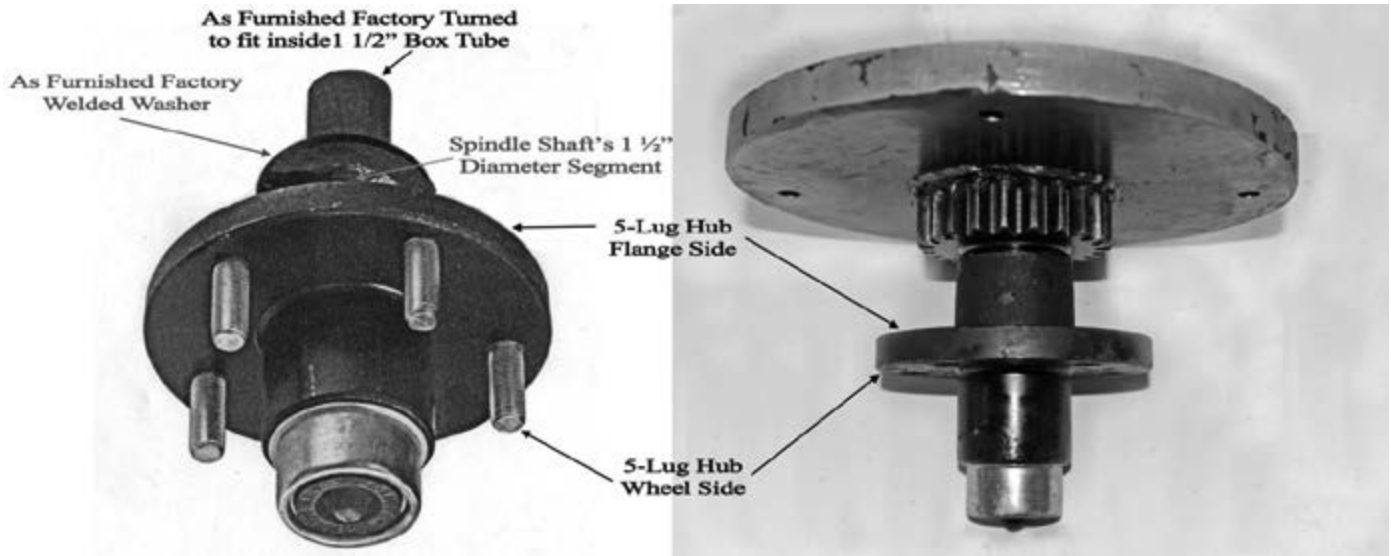

Figure 5
Figure 5 illustrates the original trailer 5-Lug Hub/Spindle and completed **Hub/Spindle & Table Platform** sub-assembly. Note: if a different hub/spindle is used modify the spindle, as required, to fit Spur Gear (Item C) and Table Platform (Item A).
- 1) Modify 5-Lug Hub/Spindle Assembly (Item G) (Figure 5):
- 8) Reassemble the hub and spindle components to complete the Hub/Spindle and Table Platform sub-assembly (Figure 5)